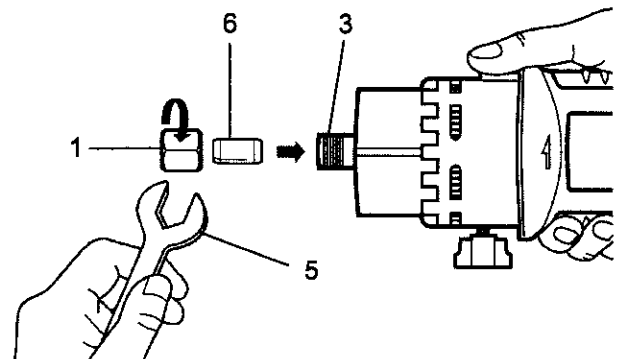

Fig. 2
4. Insert collet with square hole (6) into main shaft (3) and re-install the collet nut (1) onto the main shaft (see Fig. 2).